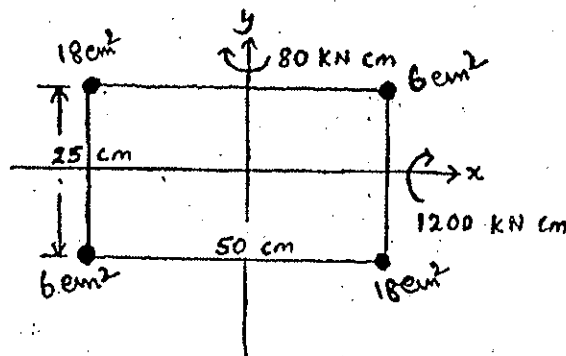

Fig. 3
- (b) Compute the load on the lumped flanges due to bending of the section shown in Fig. 3. Assume the webs do not take part in bending. Compute the loads using moment values with respect to x and y axes and principal axes.